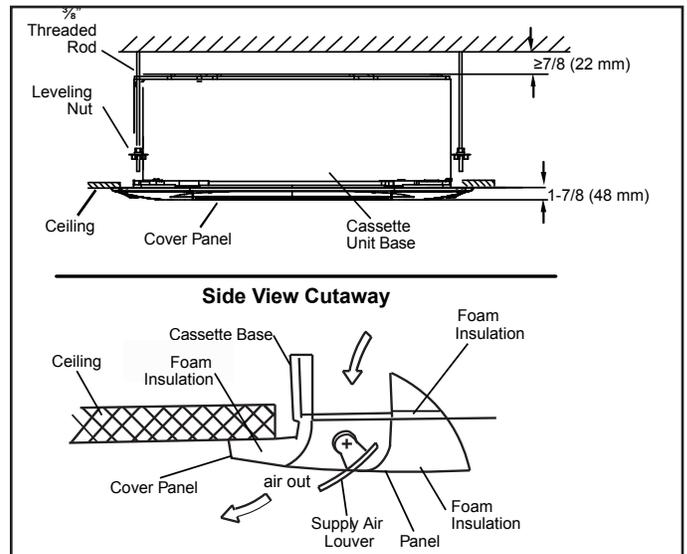

Figure 24. Cover Panel In Place
8. Use the provided screws to secure the cover panel to the unit base. Continue to tighten the cover panel securing screws until the insulation between the cover panel and the cassette base has been compressed to approximately 1/4" (6 mm). The cover panel must form a seal with the ceiling and the cassette base around the entire perimeter of the unit. See Figure 24.